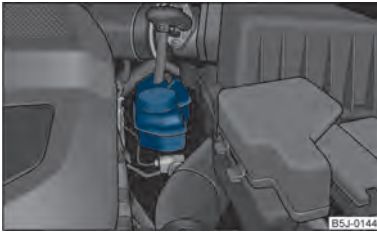

Fig. 131 Engine compartment: Brake fluid reservoir
- Inspect the brake fluid level in the reservoir ⇒ fig. 131. The level must be between the "MIN" and "MAX" markings.